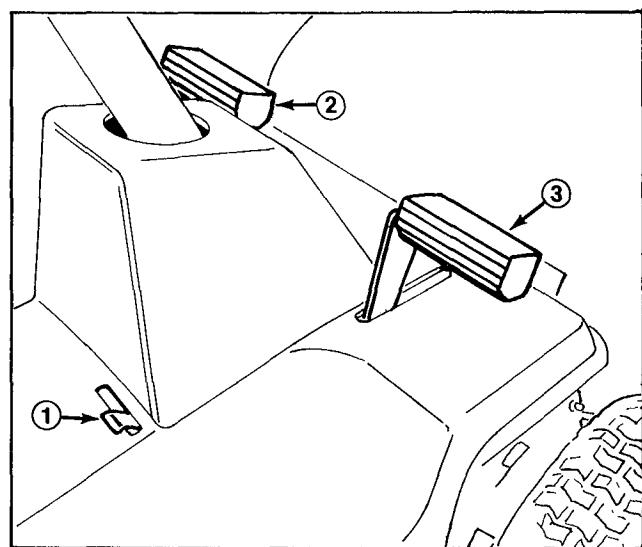

Figure 6
Clutch Pedal (Fig. 6) — Foot-operated clutch pedal is used in conjunction with gear shift. Depress clutch pedal fully when shifting gears, which moves idler pulley away from traction drive belt and disengages power to wheels. Depress clutch pedal whenever brake is used.
Brake Pedal (Fig. 6) — Foot-operated brake pedal must be depressed to slow down or stop the rider. When pedal is depressed, a caliper engages the brake disc at side of transmission. Remember to depress clutch pedal when using brake.
Parking Brake (Fig. 6) — Parking brake must be used in conjunction with brake pedal. When pedal is depressed and end of parking brake lever holds pedal in depressed position, a caliper engages the brake disc at side of transmission.
Ignition Switch (Fig. 6) — Switch on electric start model has three positions ON, OFF and START. Switch on recoil model has two positions ON and OFF.
1. Engage the parking brake (Fig. 6); refer to Using Parking Brake, page 14.
1. Engage the parking brake (Fig. 6): refer to Using Parking Brake, page 14.
2. Move parking brake control to the left and release brake pedal until it contacts end of parking brake lever (Fig. 6).
3. To release the parking brake, depress brake pedal (Fig. 6), which will allow parking brake lever to return to its disengaged position. Then release brake pedal.